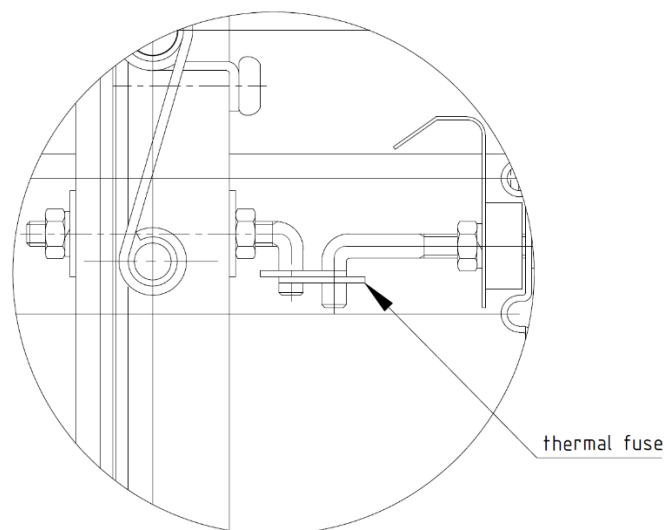

Figure 8. Thermal fuse installation method
5. After drying of fire protection coating (approx. 2h), remove used supports, test the fire damper operation and leave it in the fully open position (by installing the thermal fuse in the KTM type fire damper as shown in fig. 8).